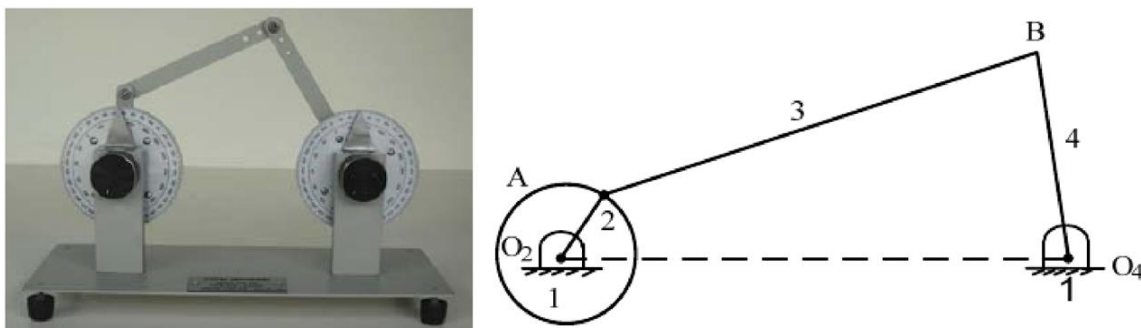

Figure 3.3-1: Four bar mechanism: apparatus and schematics.
- Lab model four-bar mechanism (Figure 3.3-1). This consists of Crank-Coupler-Rocker links.